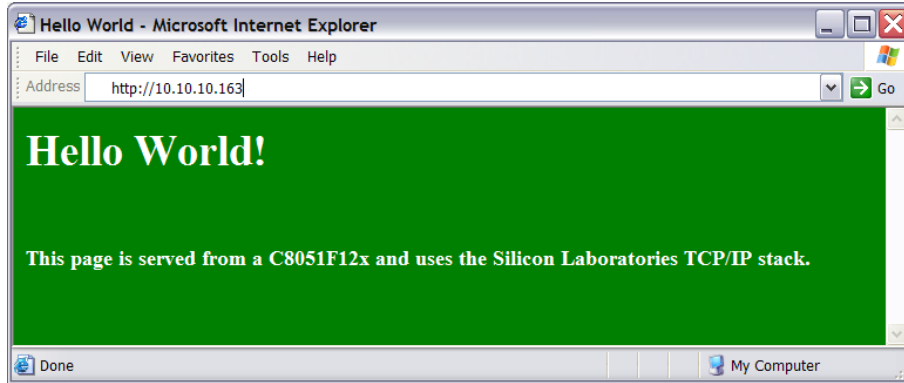

Figure 16. Hello World Web Page
5. The default web browser should launch and display the home page served by the embedded web server. The same result can be achieved by typing the IP address of the embedded web server into the address bar of a web browser. Figure 16 shows a screenshot of the home page.